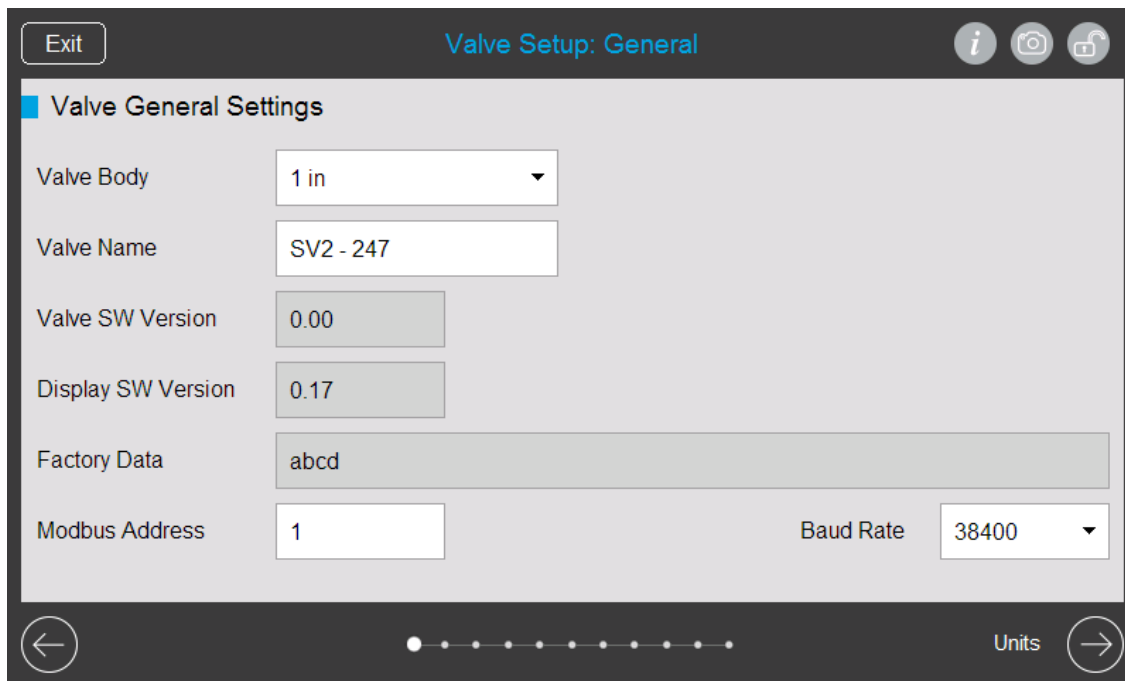

Fig. 11. Guided Valve Setup – Valve General Settings.
- When each valve is connected to the programming tool, it must be given a unique Modbus address on the Valve General Settings page. Refer to Fig. 11. After completing setup of a particular valve, the programming tool will ask whether you would like to connect another valve, provide directions for doing so and ask whether you would like to perform the guided setup for it.
Starts the Guided Valve Setup sequence. Refer to Fig. 11.
Select to navigate to the Valve General Settings page. Refer to Fig. 11.